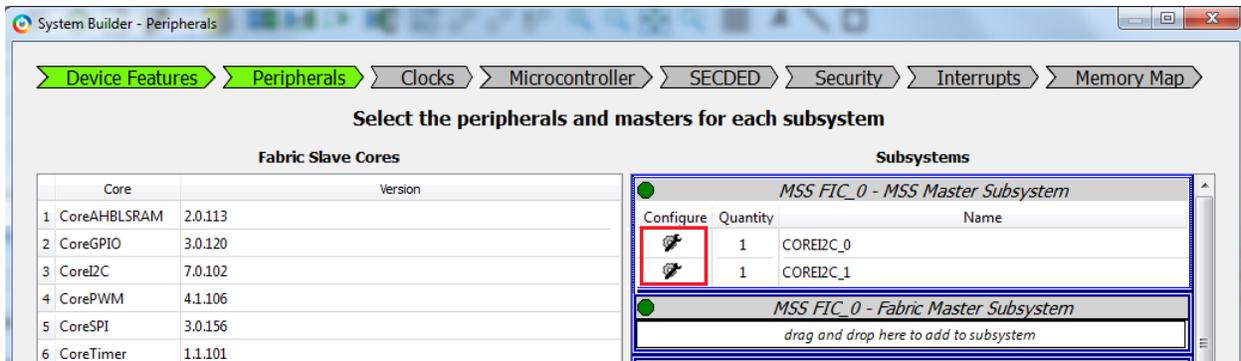

Figure 9 • CoreI2C Configure Icon
2. Configure two instances of CoreI2C by clicking **Configure** as shown in **Figure 9**.